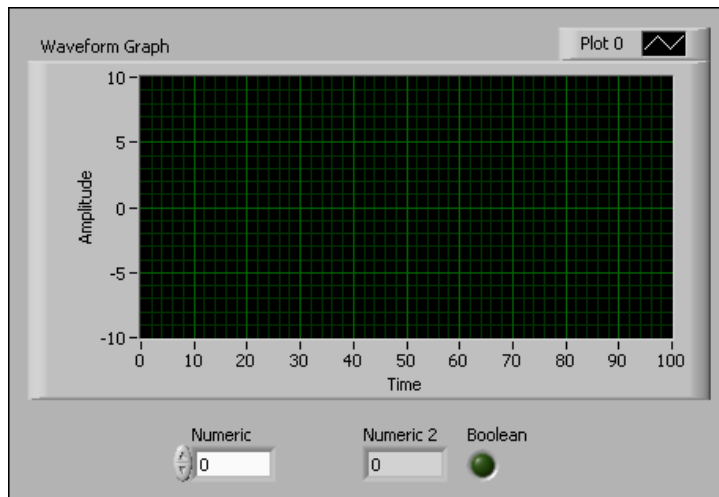

Figure 12. Creating a Front Panel
2. Place the following controls on the front panel window as shown in Figure 12.